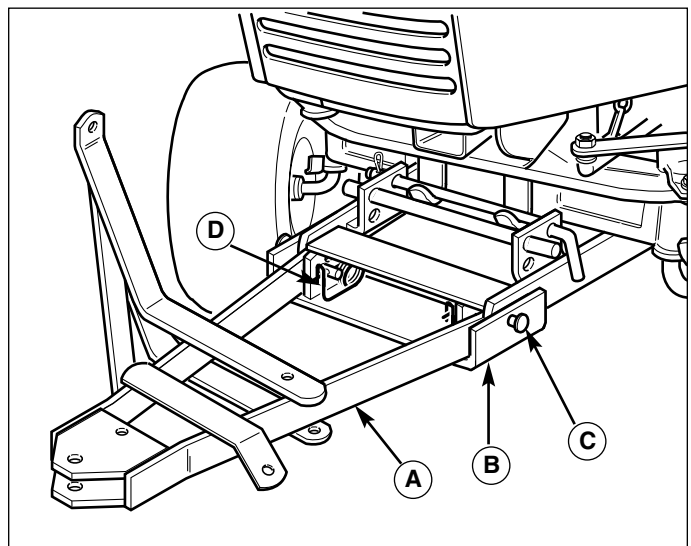

Figure 15. Install Push Bar Assembly
1. Position the pivot hitch (A, Figure 15) under the front of the main hitch (B).
2. Position the front push bar assembly (A, Figure 15) between the side rail extensions on the front of the hitch (B). Align the mounting holes in the rear corners of the push bar with the mounting holes in the hitch. Secure push bar to the hitch using clevis pin (C) and safety clip (D).